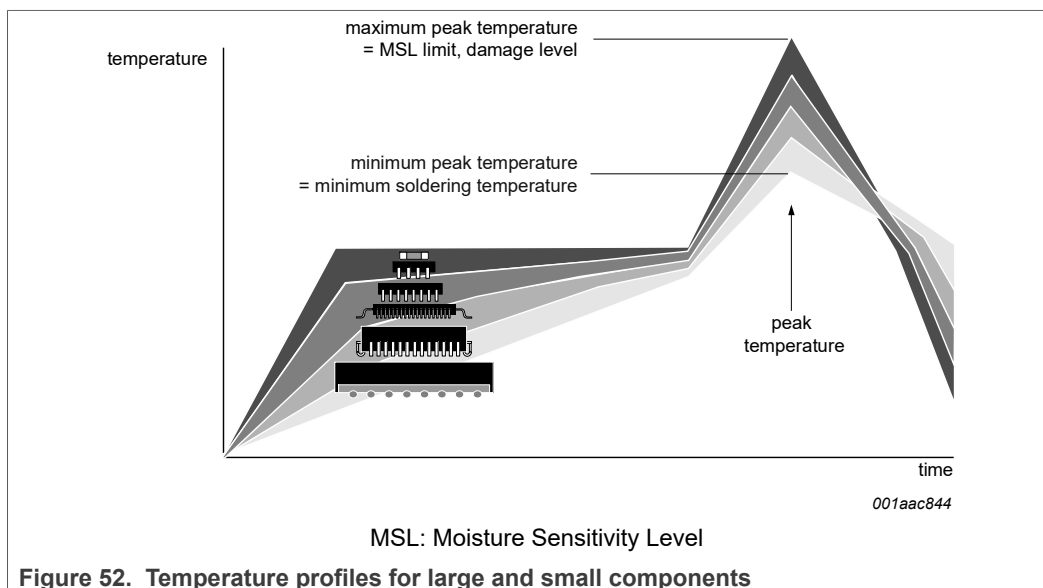

Figure 52. Temperature profiles for large and small components
- Lead-free versus SnPb soldering; note that a lead-free reflow process usually leads to higher minimum peak temperatures (see Figure 52) than a SnPb process, thus reducing the process window
Studies have shown that small packages reach higher temperatures during reflow soldering, see Figure 52.